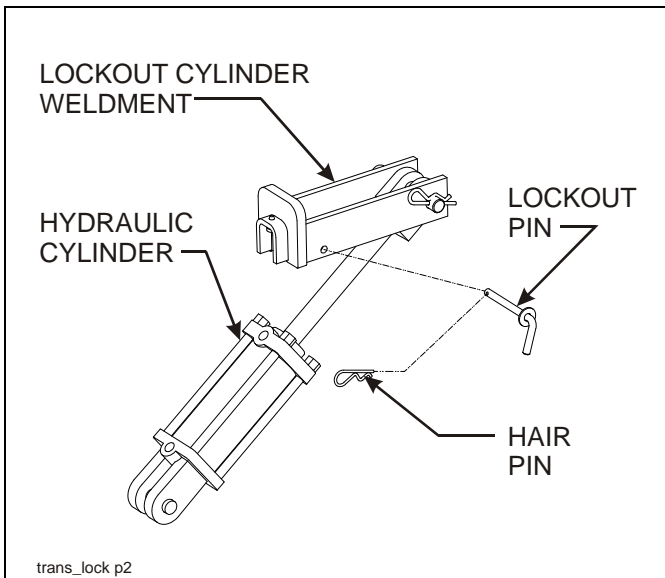

Figure 4-3: Frame Lift Cylinders
3. Place the transport lock brackets on the rods of the lift cylinders on the main frame and pin in place (See Figure 4-3.)